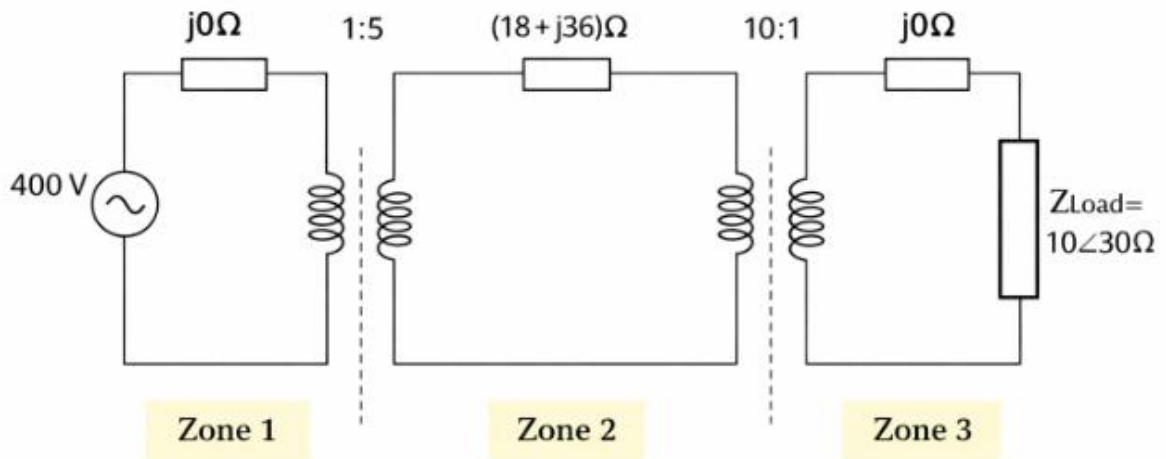

Figure 5
- a. Consider a single-phase power system comprising a generator, transmission line and load as shown in Figure 5. The system operates with a base apparent power of $S_B = 20\text{kVA}$, and an applied voltage at the generator end of 400V . The system includes two transformers: the first transformer has a turns ratio of $a_1 = 0.2$ and the second transformer has a turns ratio of $a_2 = 10$. The load impedance is given by $Z_{\text{Load}} = 10\angle 30^\circ \Omega$ and the transmission line impedance is $Z_{\text{Line}} = 18 + j36 \Omega$.